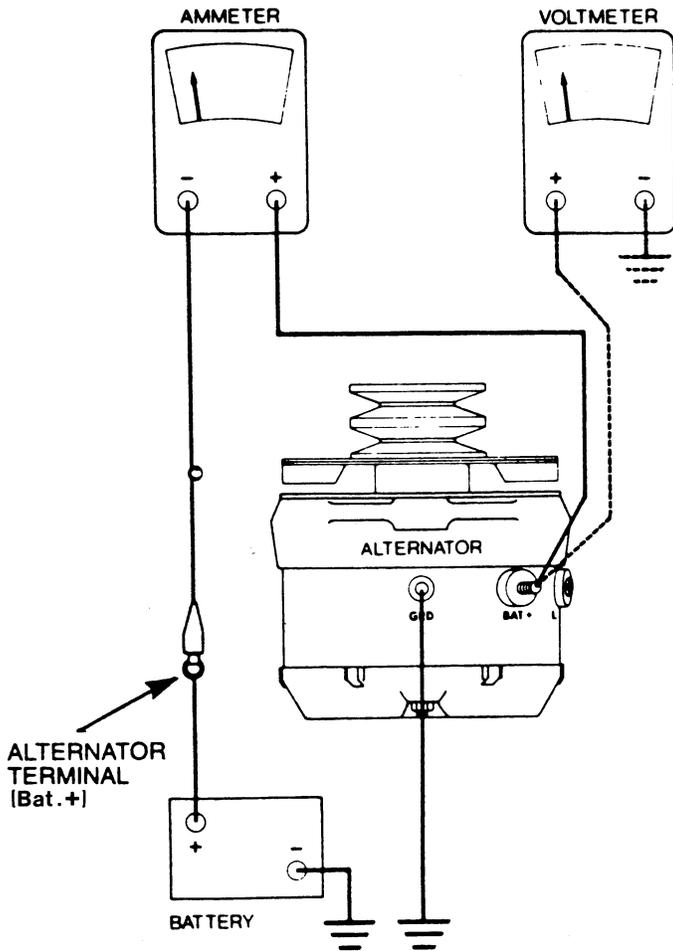

FIGURE 2
- d. Disconnect the battery ground cable. Disconnect battery lead at alternator and attach a 0-150 ampere ammeter as shown in Figure 2. Also, connect a 0-40-volt voltmeter as shown in the same figure. Reconnect battery ground cable.